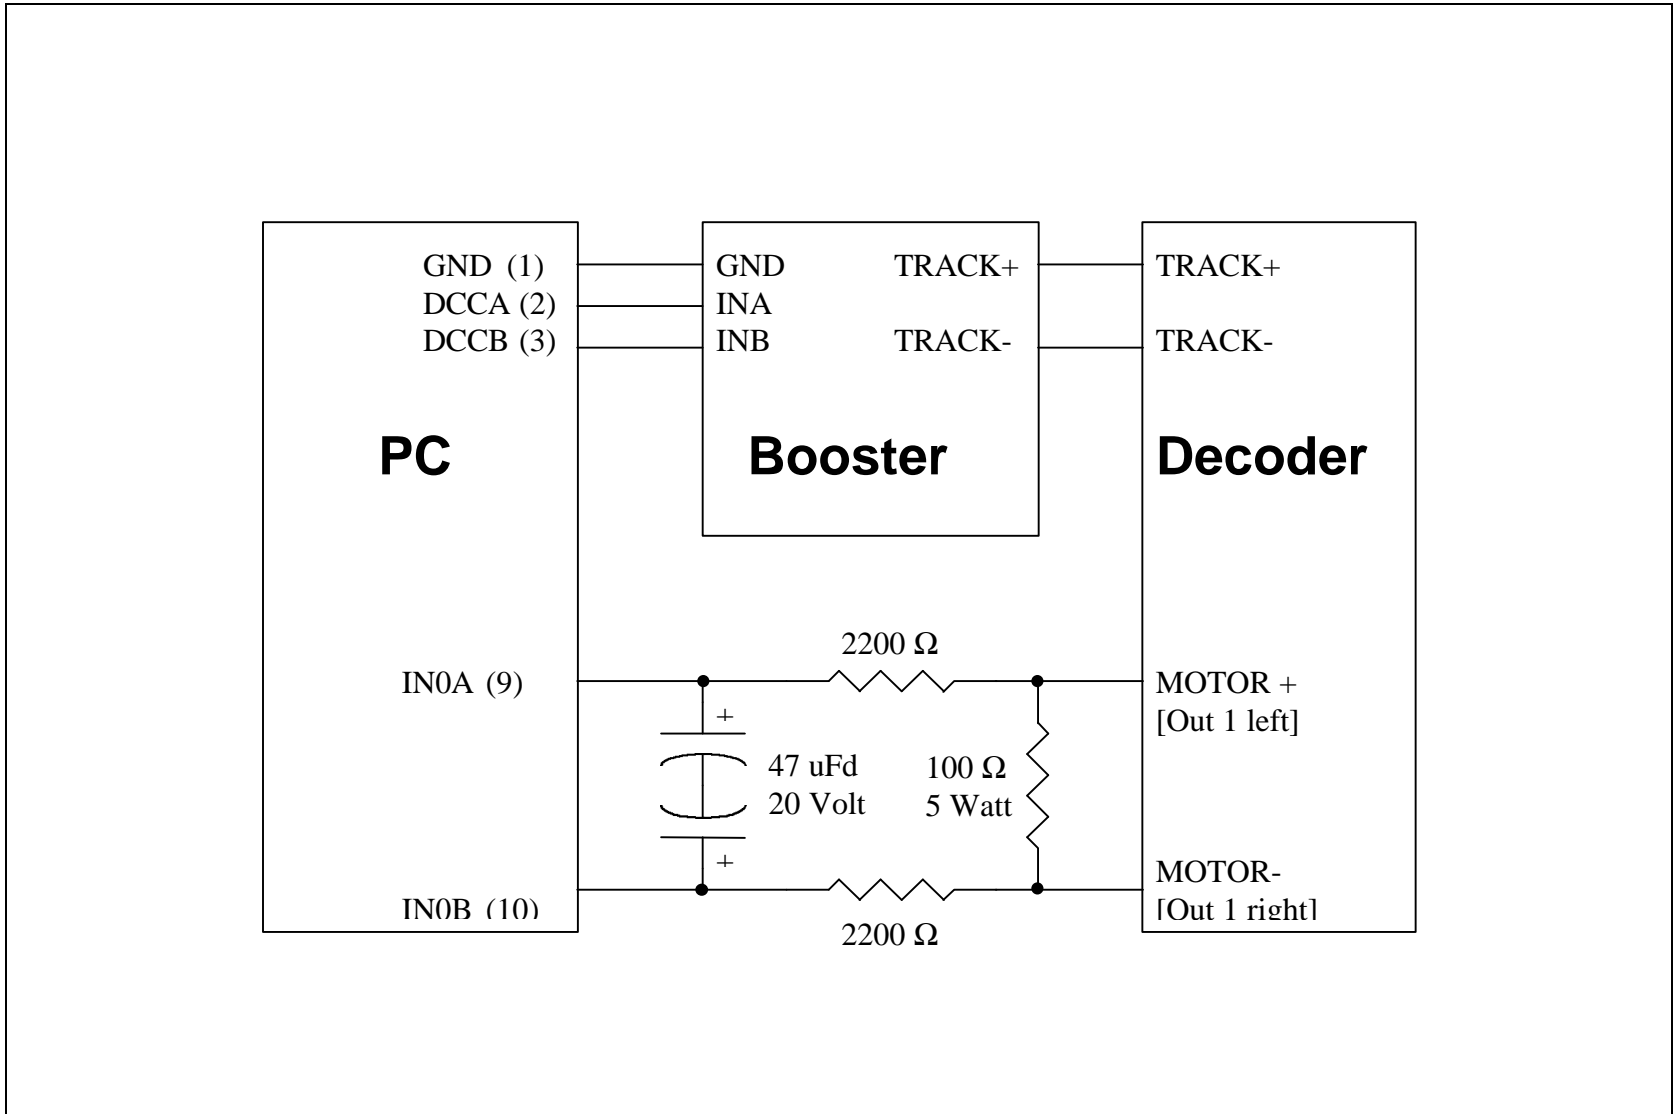
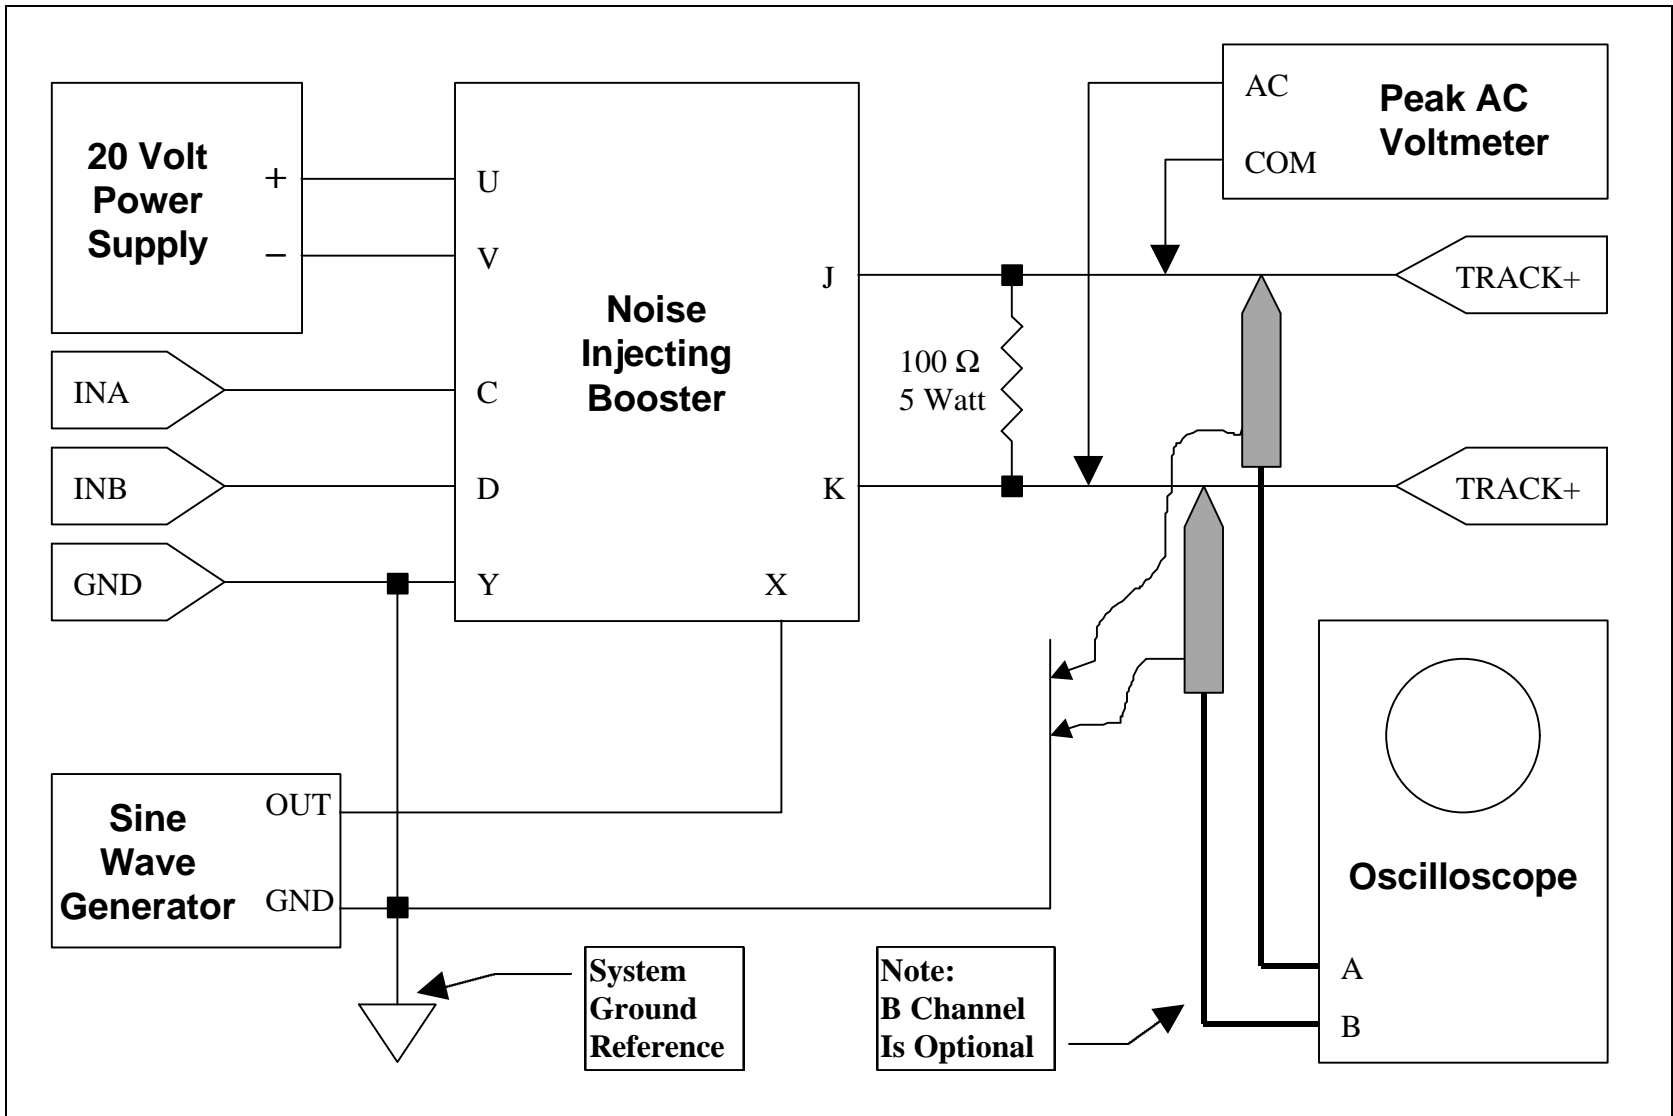

Figure 1: Test Jig Schematic
Figure 2: Noise Injecting Booster Connections
- 5) Decoder test jig as shown in *Figure 1: Test Jig Schematic*.
**The test equipment should be connected as shown in *Figure 1: Test Jig Schematic*. The noise injecting booster should be set up as shown in *Figure 2: Noise Injecting Booster Connections*.**
- 2) Connect conforming booster as per *Figure 1: Test Jig Schematic*.
<ol style="list-style-type: none"> <li>1. Decoder should be programmed and connected as specified in the manual test section.</li> <li>2. Connect conforming booster as per Figure 1: Test Jig Schematic.</li> <li>3. Start decoder test program in automatic mode by typing- C:\&gt; send for a mobile decoder or C:\&gt; send -d a for an accessory decoder.</li> <li>4. Enter appropriate decoder information when prompted.</li> <li>5. Verify self tests have passed.</li> </ol>
- 2) Connect the noise injecting booster as per *Figure 1: Test Jig Schematic* and *Figure 2: Noise Injecting Booster Connections*.
<ol style="list-style-type: none"> <li>1. Equipment should be set up as specified in Equipment Setup For Automated Tests With Noise Injecting Booster.</li> <li>2. Connect conforming booster as per Figure 1: Test Jig Schematic with decoder input leads in the NORMAL position.</li> <li>3. Start decoder test program in automatic mode by typing- C:\&gt; send for a mobile decoder or C:\&gt; send -d a for an accessory decoder.</li> <li>4. Enter appropriate decoder information when prompted.</li> <li>5. Verify self tests have passed.</li> </ol>
<ol style="list-style-type: none"> <li>1. Equipment should be set up as specified in Equipment Setup For Automated Tests With Noise Injecting Booster.</li> <li>2. Connect conforming booster as per Figure 1: Test Jig Schematic with decoder input leads in the REVERSED position.</li> <li>3. Start decoder test program in automatic mode by typing- C:\&gt; send for a mobile decoder or C:\&gt; send -d a for an accessory decoder.</li> <li>4. Enter appropriate decoder information when prompted.</li> <li>5. Verify self tests have passed.</li> </ol>